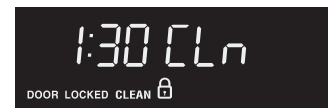

Fig. 2
3. Press (START). The "DOOR LOCKED" icon will flash; "CLEAN", Cooktop Lockout icon and the letters "CLn" will remain on in the display (Fig. 2).